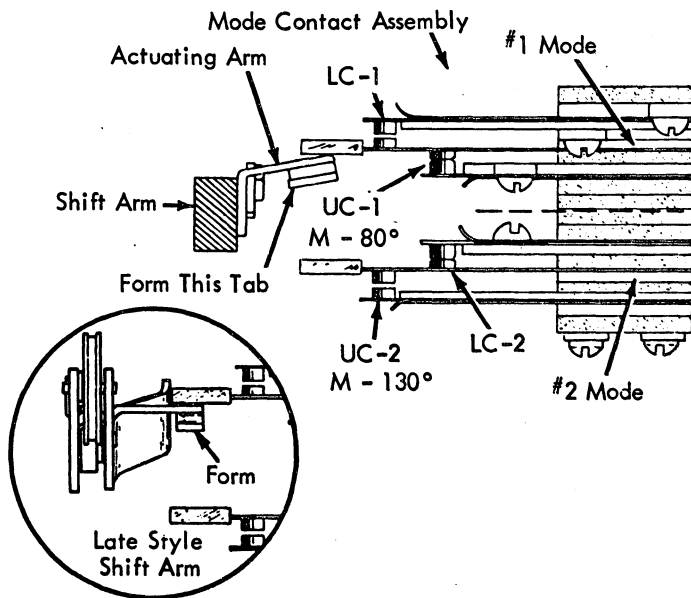

FIGURE 87. Mode Contact Actuating Arm
- Mode Contact Actuating Arm - With the shift ratchet released, hand cycle from lower to upper case and adjust as follows (Fig. 87).